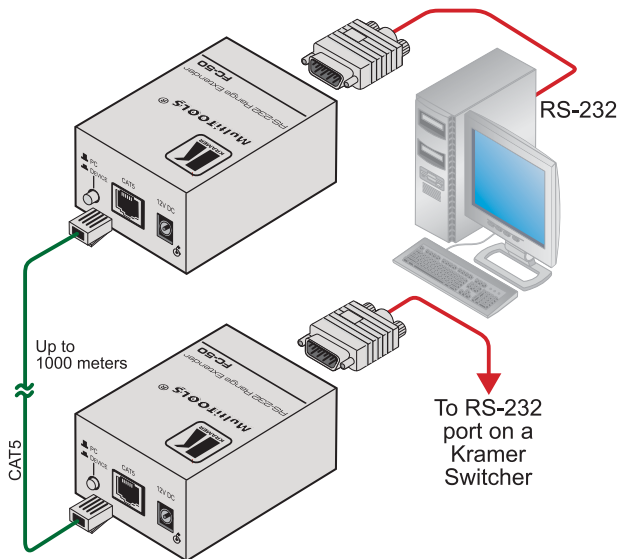

Figure 3: Connecting the FC-50 RS-232 Range Extender
To connect two **FC-50** units, as illustrated in the example in Figure 3, do the following:
5. Connect the 12V DC power adapter to the power socket on the **FC-50** and connect the adapter to the mains electricity (not illustrated in Figure 3).